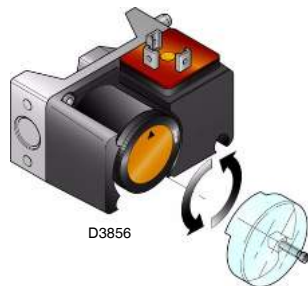

Fig. 24
- Adjust the maximum gas pressure switch (Fig. 24) to the end of the scale.